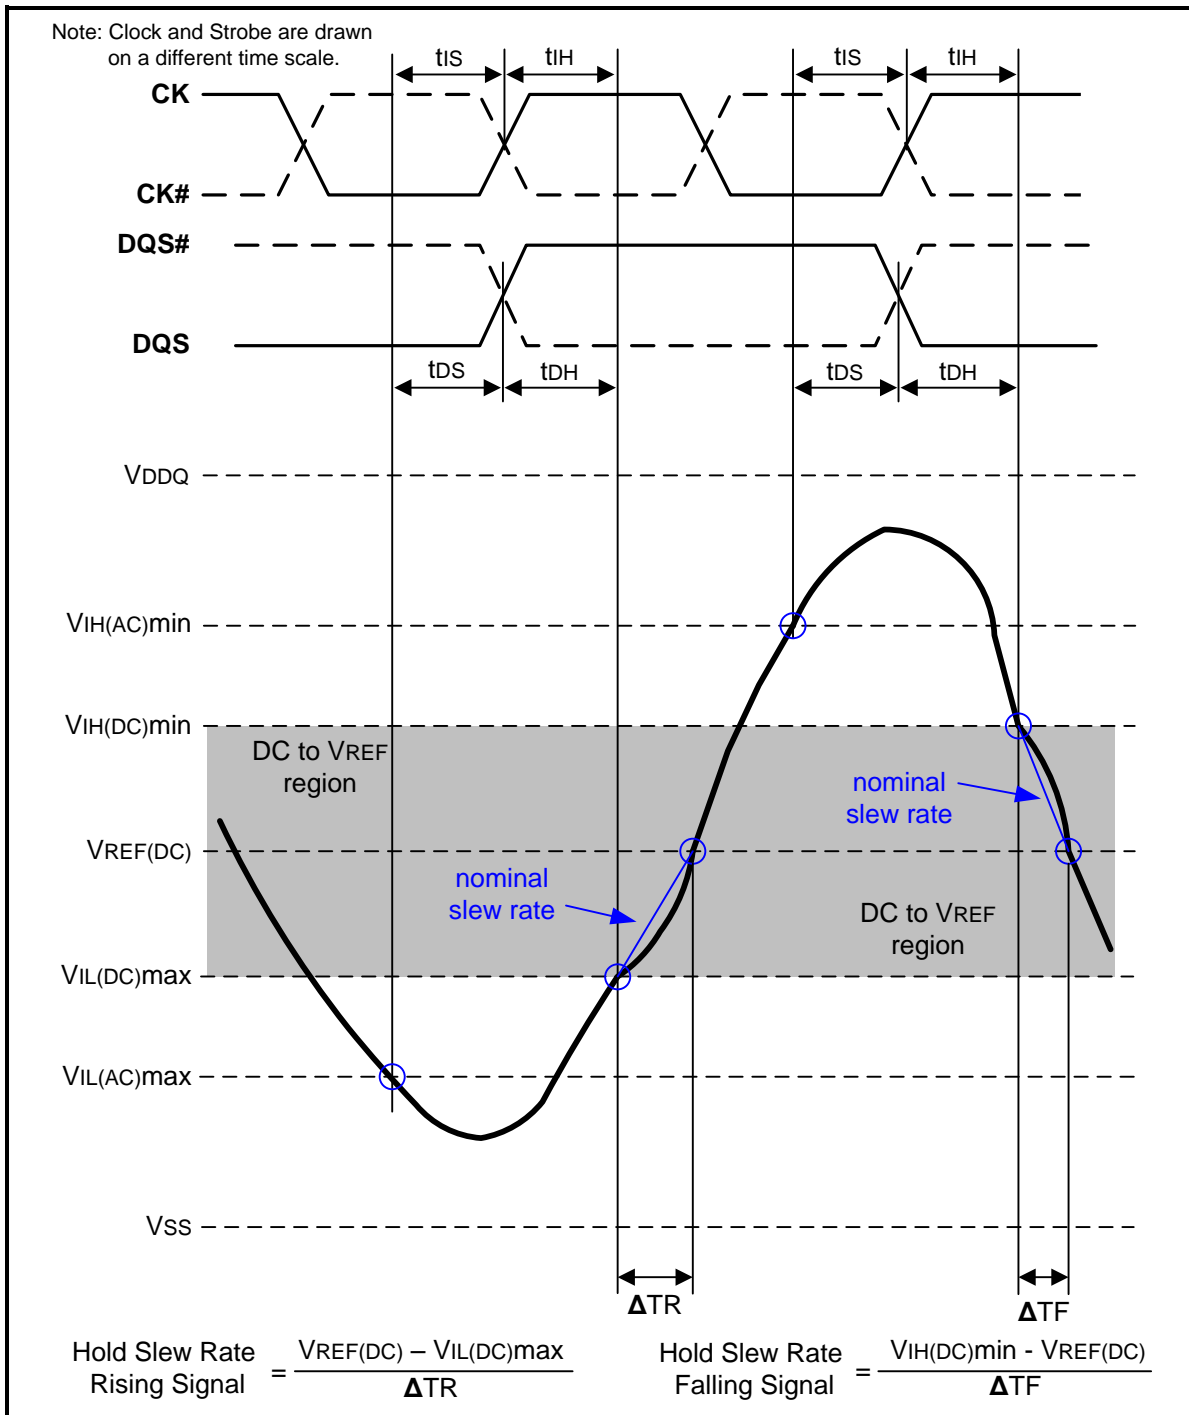
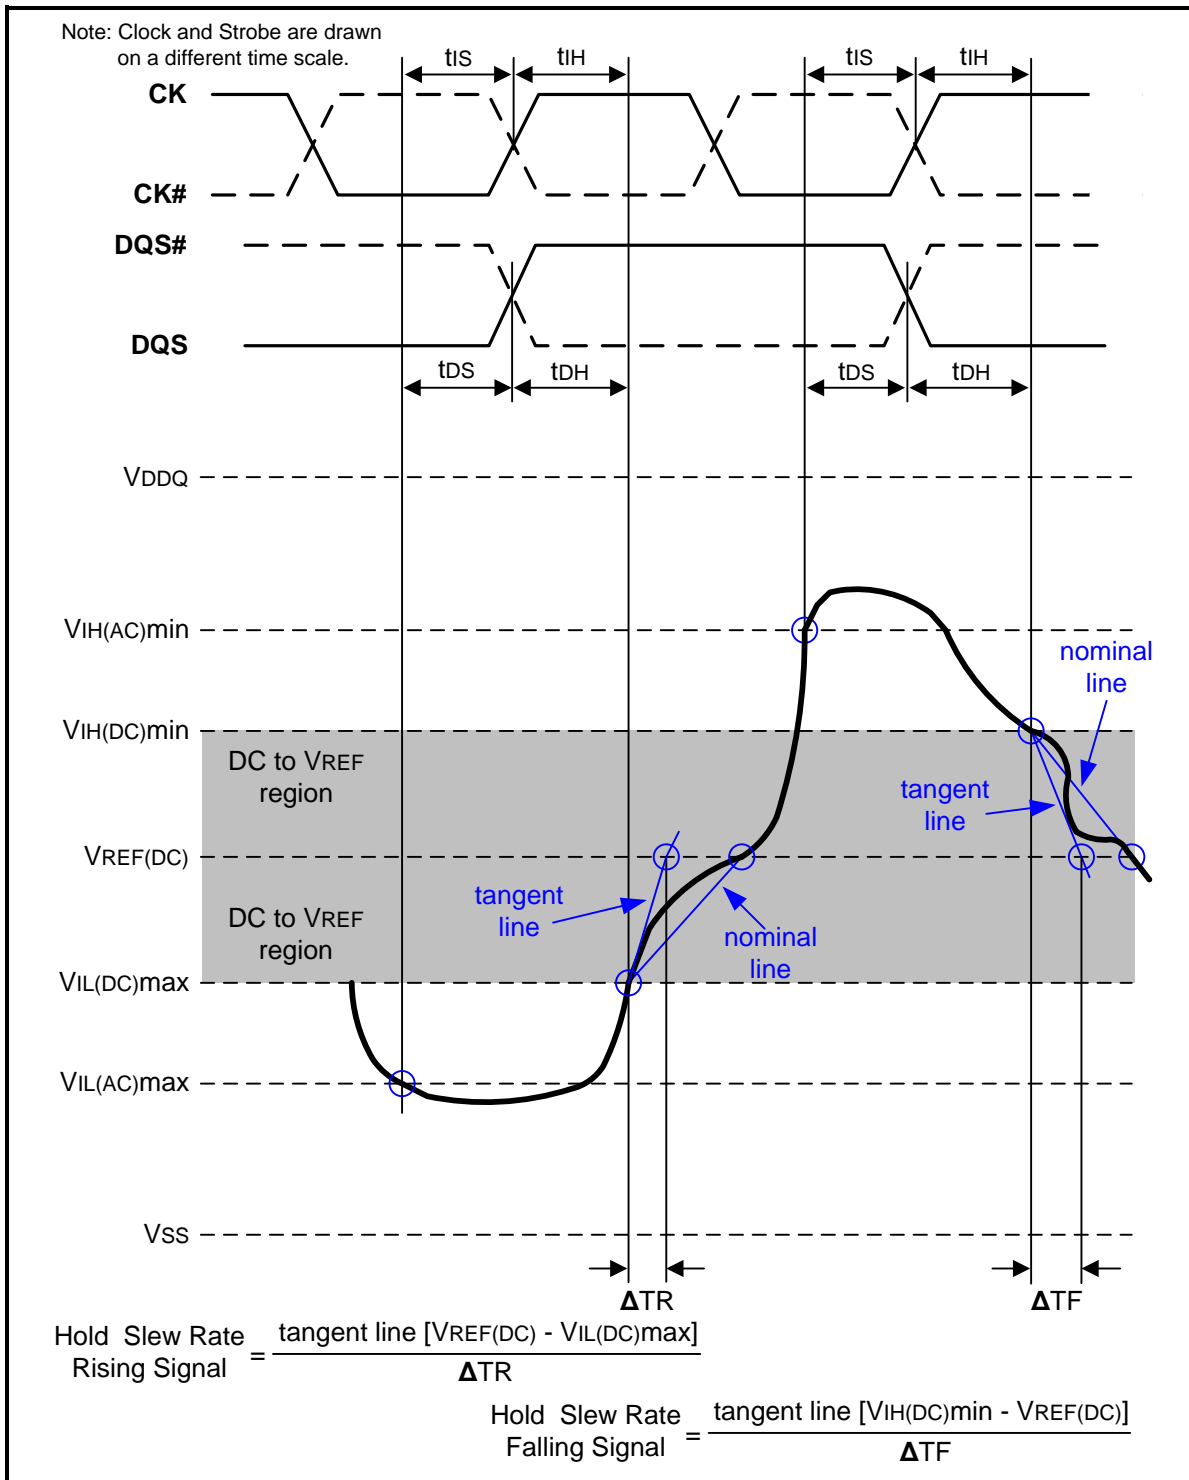

Figure 108 – Illustration of nominal slew rate for hold time tDH (for DQ with respect to strobe) and tIH (for ADD/CMD with respect to clock)
Figure 110 – Illustration of tangent line for hold time tDH (for DQ with respect to strobe) and tIH (for ADD/CMD with respect to clock)
Hold (t_{IH}) nominal slew rate for a rising signal is defined as the slew rate between the last crossing of $V_{IL(DC)max}$ and the first crossing of $V_{REF(DC)}$. Hold (t_{IH}) nominal slew rate for a falling signal is defined as the slew rate between the last crossing of $V_{IH(DC)min}$ and the first crossing of $V_{REF(DC)}$. If the actual signal is always later than the nominal slew rate line between shaded 'DC to VREF(DC) region', use nominal slew rate for derating value (see Figure 108). If the actual signal is earlier than the nominal slew rate line anywhere between shaded 'DC to VREF(DC) region', the slew rate of a tangent line to the actual signal from the DC level to VREF(DC) level is used for derating value (see Figure 110).
Hold (tDH) nominal slew rate for a rising signal is defined as the slew rate between the last crossing of VIL(DC)max and the first crossing of VREF(DC). Hold (tDH) nominal slew rate for a falling signal is defined as the slew rate between the last crossing of VIH(DC)min and the first crossing of VREF(DC) (see Figure 108). If the actual signal is always later than the nominal slew rate line between shaded 'DC level to VREF(DC) region', use nominal slew rate for derating value. If the actual signal is earlier than the nominal slew rate line anywhere between shaded 'DC to VREF(DC) region', the slew rate of a tangent line to the actual signal from the DC level to VREF(DC) level is used for derating value (see Figure 110).